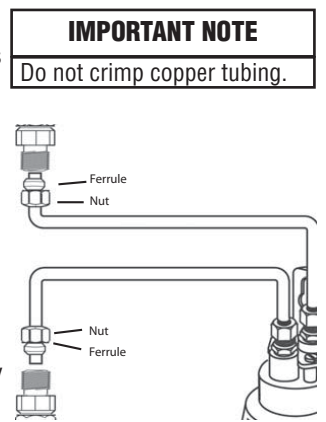

Figure 10
10. Connect both pieces of tubing to filter and water tube as shown with compression fittings. **Do not overtighten nuts.** (Figure 10)